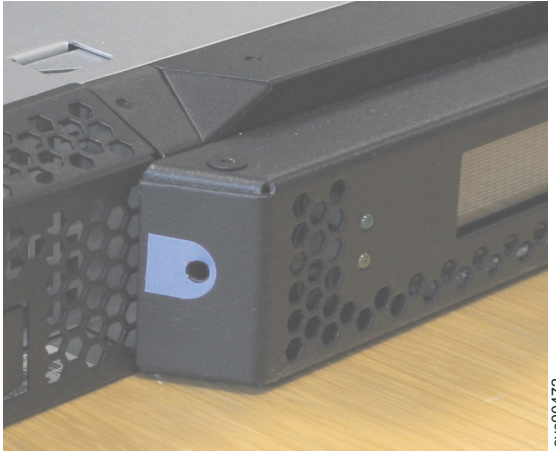

Figure 79. SAN Volume Controller 2145-8A4 service controller release button
3. Locate the recessed service controller release button on the left side of the controller, which is marked in blue, as shown in Figure 79.